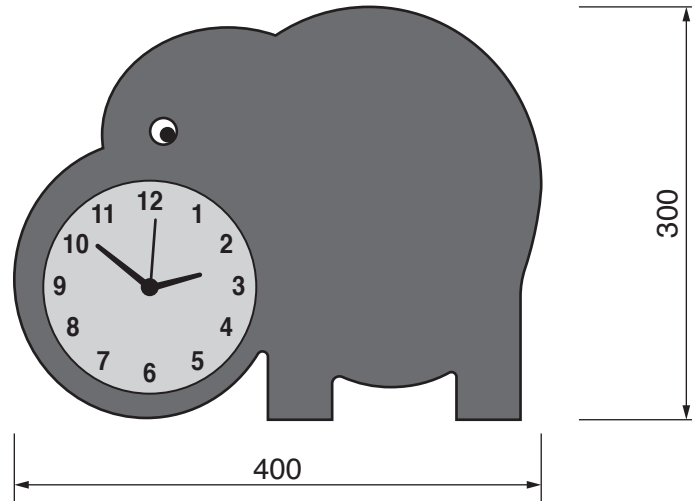

Fig. 6
- 11** Fig. 6 shows an incomplete design of a child’s novelty clock.